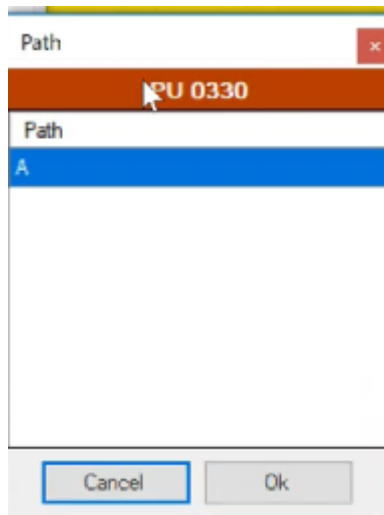

Fig. 244 - Connect path to PU
2. The software will recognize the PU number and the user can associate to a path (Fig. 244);